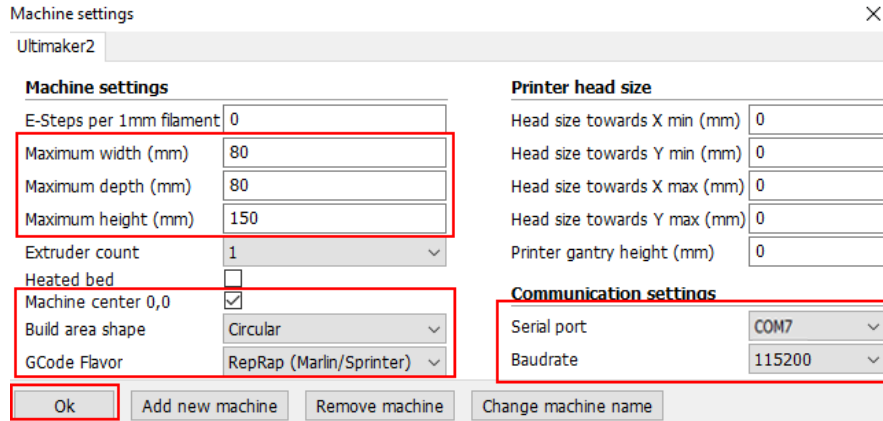

Figure 5.146 Parameters setting
2. Set the corresponding parameters on the Machine settings and click **OK**, as shown in Figure 5.146. Table 5.16 lists the values of the parameters that need to be set. The other parameters are set by default.